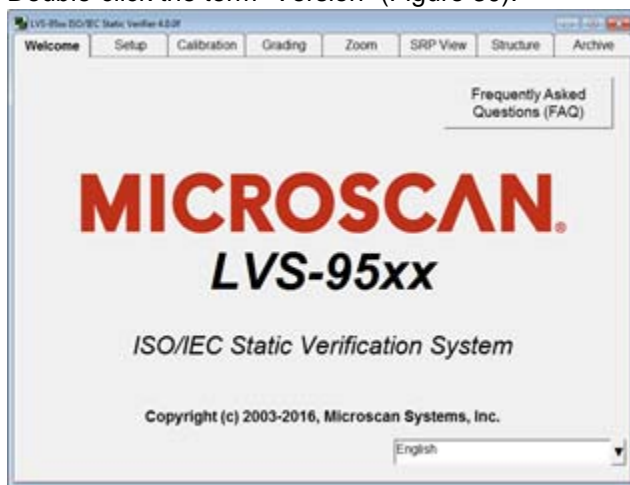

Figure 30: Double-click on “Version”
42. Double-click the term “Version” (Figure 30).